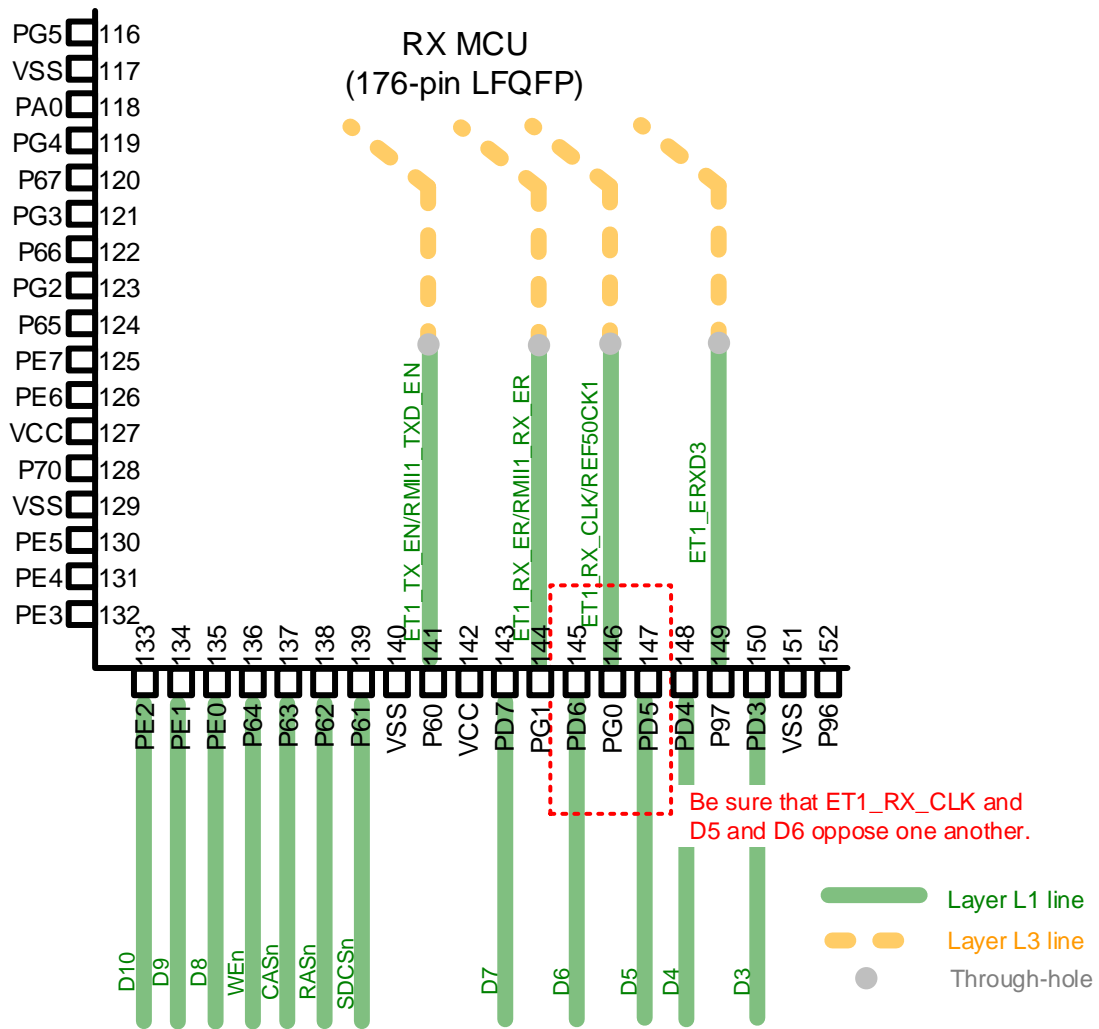

Figure 5 Wiring Example
11. When wiring the MII channel 1 signal from an RX MCU, avoid having the lines run alongside those of the SDRAM signals. In particular, be sure to lay out the patterns from an RX MCU such that the ET1_RX_CLK and D5 and D6 signals run in the opposite directions. (See Figure 5.)